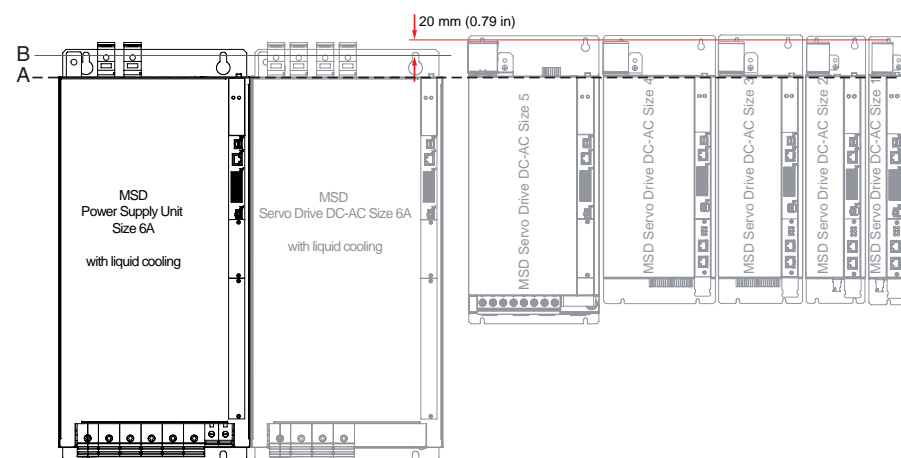

Figure 3.9 Butt mounting axis group with liquid cooling and supply unit Size 6A
- Align all MSD Servo Drive DC-AC and the supply unit Size 6A in a line along the top edge of the devices (see line A in Figure 3.9). Move down the mounting bores for DC-AC Servo Drive Size 6A and the supply unit Size 6 by approx. 20 mm (0.79 in) (see red line B in Figure 3.9). This action is necessary to be able to make the DC link connections.